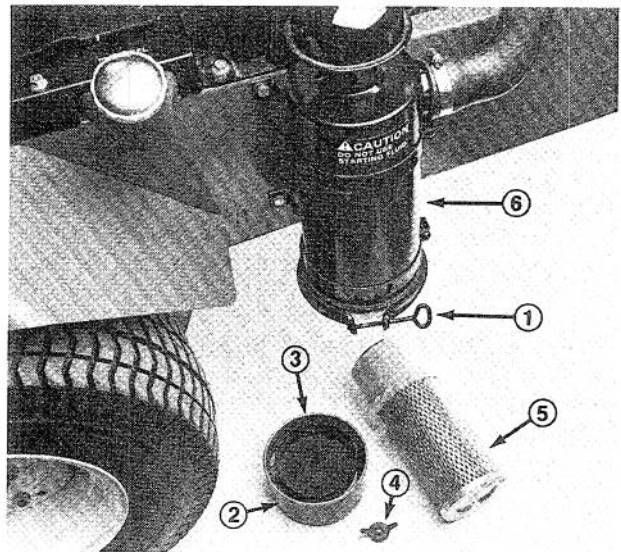

Figure 33
1. Loosen thumb screw until dust cap and baffle can be removed (Fig. 33). Separate dust cap and baffle (Fig. 33).
2. Remove wing nut w/gasket and slide filter element out of air cleaner body (Fig. 33).